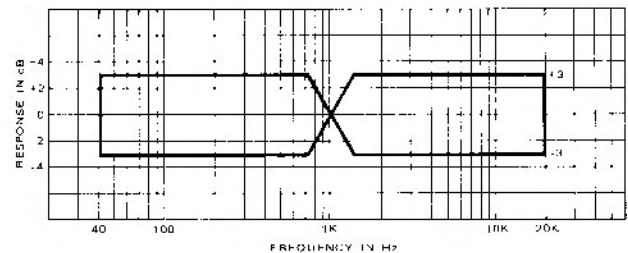

Fig. 2-17. Overall Frequency Response
3. Switch OUTSELECT to REPRO and record the test signal with the frequency varied from 40 Hz to 20 kHz. Read the reproduced output levels at the proper test frequencies during recording. Make sure the frequency response obtained is within the specified limit shown in Fig. 2-17.